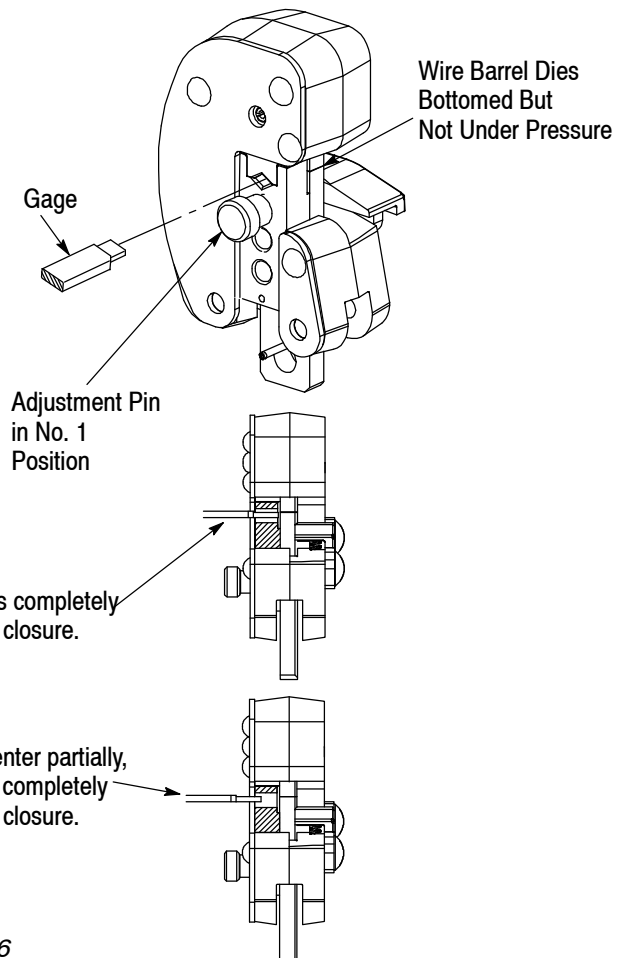

Figure 6
To gage die closure, refer to Figure 6 and proceed as follows:
4. Align the GO element with the wire barrel section of the crimping chamber. Push element straight into the crimping chamber without using force. The GO element must pass completely through the crimping chamber. See Figure 6.
5. Align the NO-GO element and try to insert it straight into the same section of the crimping chamber. The NO-GO element may start entry, but must not pass completely through the crimping chamber. See Figure 6.